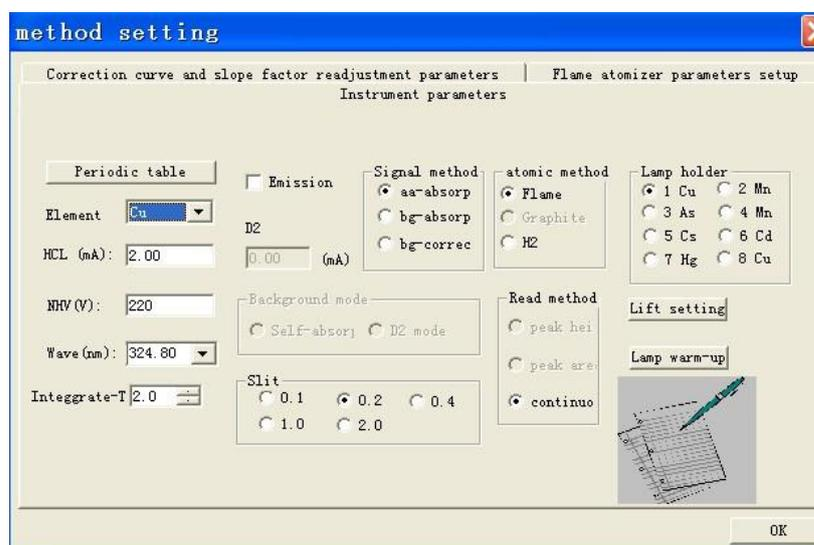

Figure 6-2
4. Press "More parameters" in the "Instrument adjustment" dialog to show another dialog as shown in Figure 6-2.